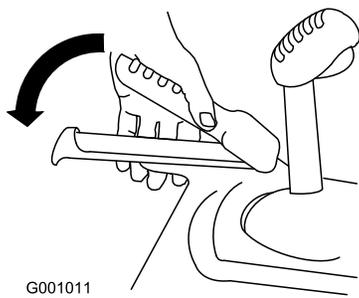

Figure 36
- To engage the traction drive, squeeze the left hand (traction) lever to the handgrip (Figure 36).